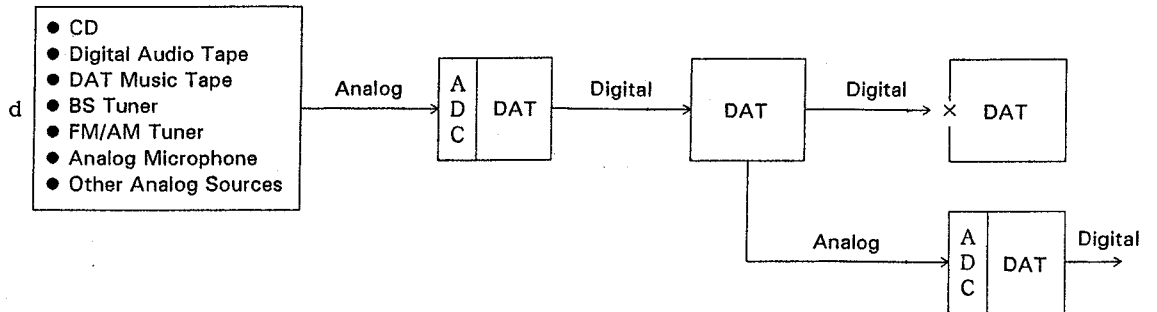

Fig. 1 Serial Copy Management System
- Digital copy can be accomplished from CD's, DAT music tapes, and other digital sources that are copyrighted. However, it is not possible to make another digital copy from a copied tape (see Fig. 1-a).
- Broadcast satellite (BS), digital microphone, and other digital signals not having copy prohibit codes have no particular limitations. Therefore, digital copy can be freely accomplished (see Fig. 1-b).
- Copy prohibit codes do not exist in analog signals. Therefore, copy is possible. Regardless of its contents, a copied tape can be used as a DAT music tape that has a copy prohibit code. Because there is no identification system for determining the existence or nonexistence of a copyright, digitally recorded tapes of analog signals can be used again to make more digital copies. However, those tapes cannot be copied to again. This means that once signals that have passed through an analog-to-digital converter have been recorded on digital audio tape, the recorded tape becomes a DAT music tape with a copy prohibit code (see Fig. 1-d).
- Separate analog-to-digital converters and other general category products can accomplish digital copy up to two times from original digital sources, like the above copy from analog signals. Digital copy cannot be accomplished more than twice due to the limitations imposed by the specifications (see Fig. 1-c).